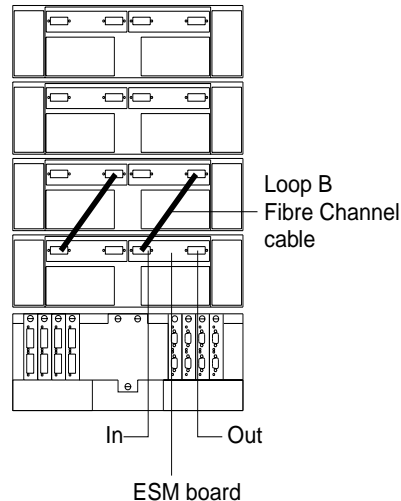

Figure 29. Connecting two drive enclosures into redundant drive loop B
2. Connect the same first two drive enclosures to drive loop B, as shown in Figure 29.